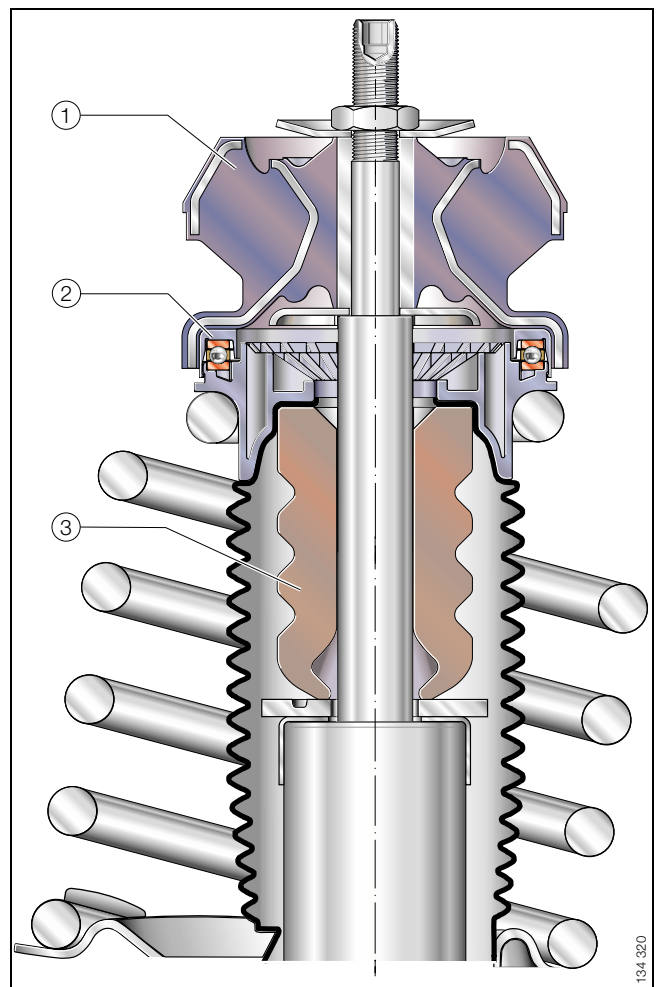

Figure 11 · Reinforced bearing housing capable of supporting spring and full deflection forces
In this design the spring is also supported directly by the bearing housing (Figure 11).
**Key to Figure 11**
- ① Top mount
- ② Suspension strut bearing with reinforced housing
- ③ Bump stop